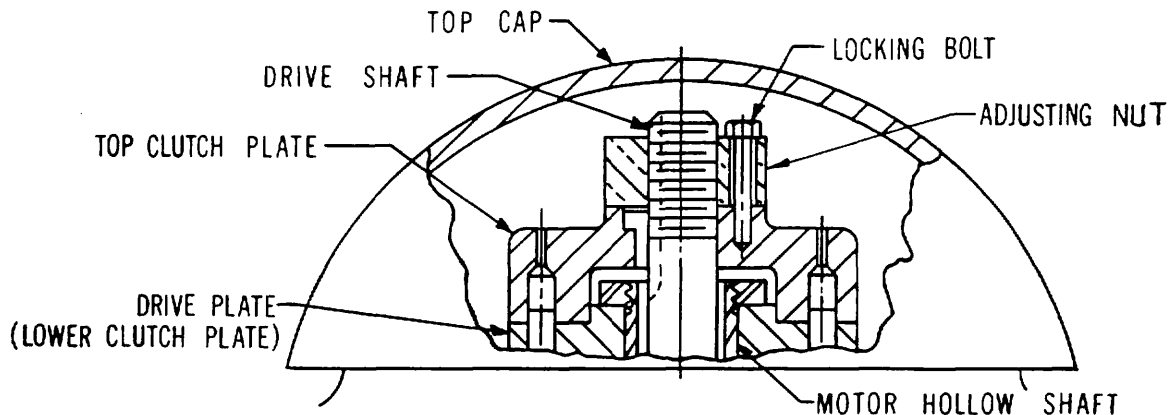

FIG. 22 - GENERAL ARRANGEMENT OF CLUTCH ASSEMBLY IN A HOLLOW SHAFT DRIVER
4. Unbolt the driver from its shipping skid and place it near the head on its wooden base. Remove the top cap from the driver. Unbolt and remove the top clutch plate. See Fig. 22.